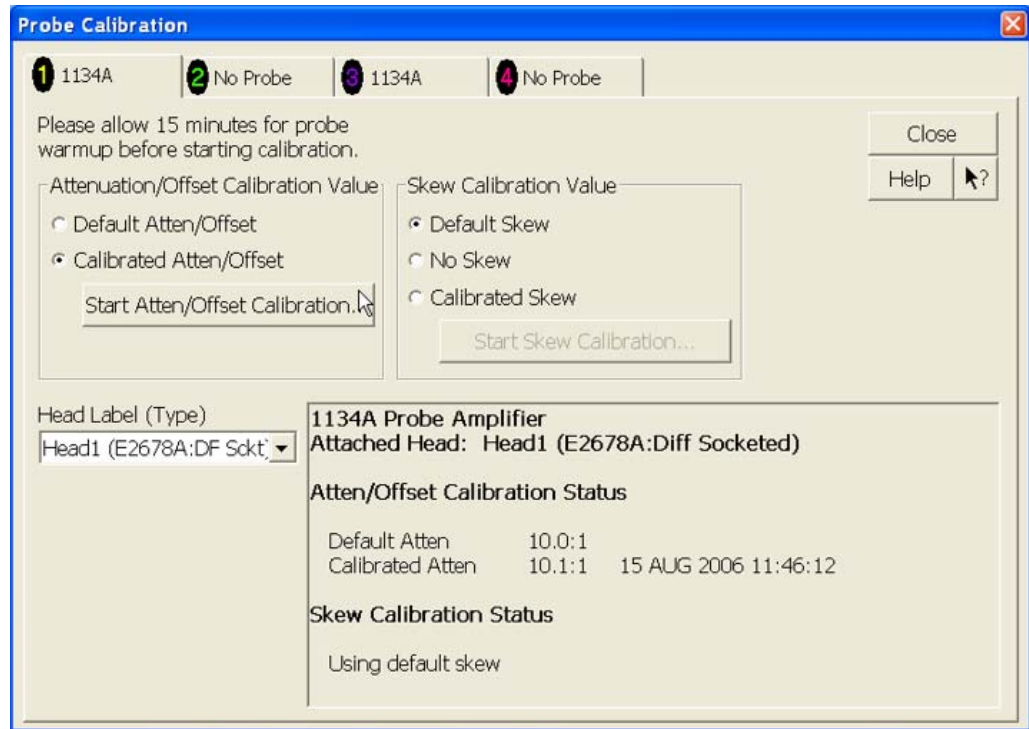

Figure 88 Probe Calibration Window.
- 4 Referring to Figure 88 and perform the following steps: